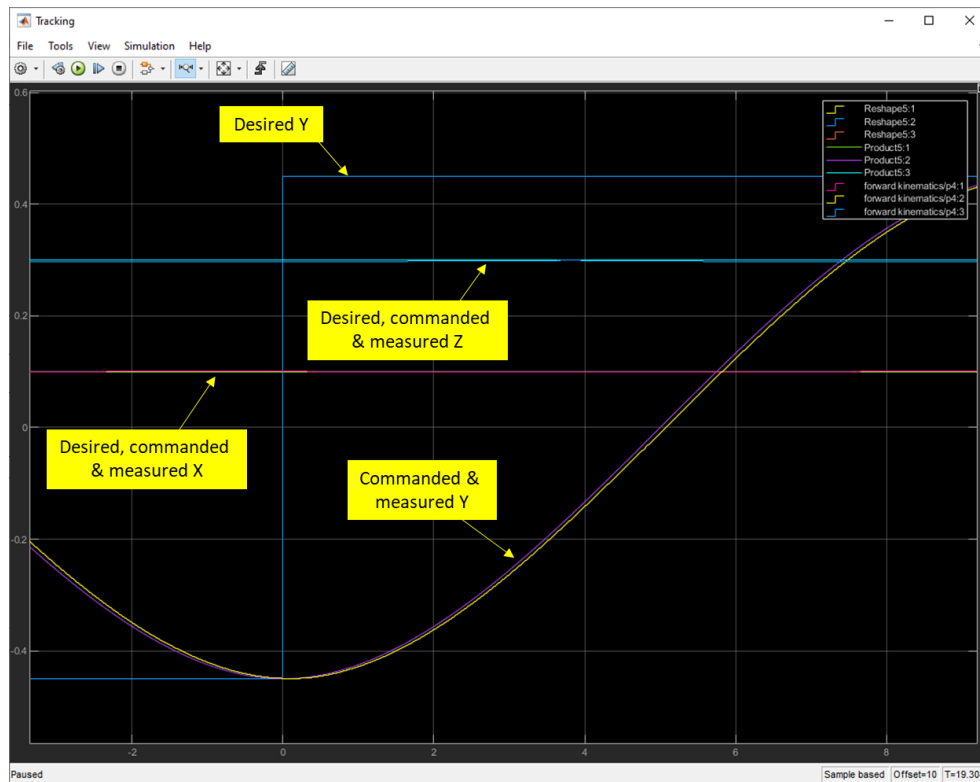

Figure 2 - Sample results showing the manipulator following a spline
5. Open the scope labeled Tracking. Sample results are shown in Figure 2. The scope displays the desired, commanded, and measured X, Y, Z values all in meters. The results indicate that when a change in the Y axis setpoint occurs, the end-effector initially accelerates along the Y axis as it starts to follow the spline, then travels at a constant velocity, before decelerating as it reaches the setpoint. Was the manipulator successfully able to traverse the entire trajectory?